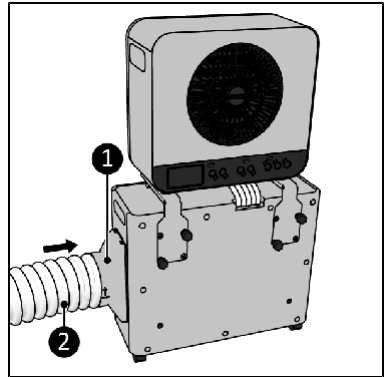

Figure 12
8. Attach the adapter (Fig. 12, Ref. 1) to the side of the outdoor unit (Fig. 12).
9. Slightly widen one end of the hot air exhaust hose (Fig. 12, Ref. 2), then screw it onto the adapter by turning it anticlockwise.
3. Attach the adapter (Fig. 12, Ref. 1) and the hot air exhaust hose (Fig. 12, Ref. 2) to the side of the outdoor unit.